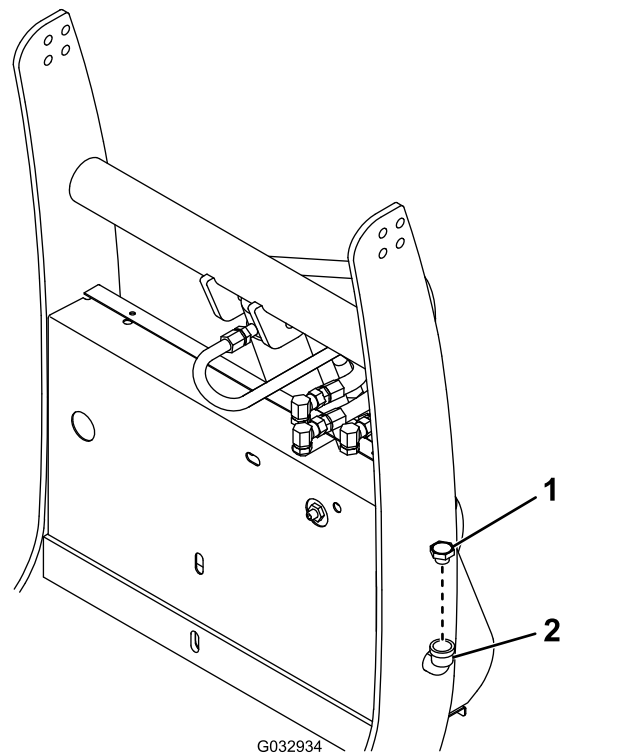

Figure 36
2. Clean the area around the fill cap (Figure 36).
3. Remove the fill cap from the hydraulic reservoir (Figure 36).